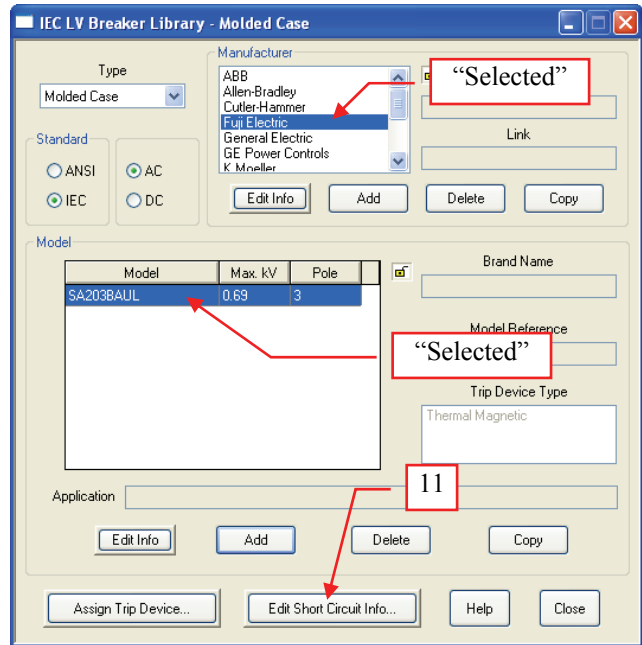

Fig. 10
11. With the “SA203BAUL” selected in the “Model” frame, click the “Edit Short Circuit Info...” button. See Fig. 10.